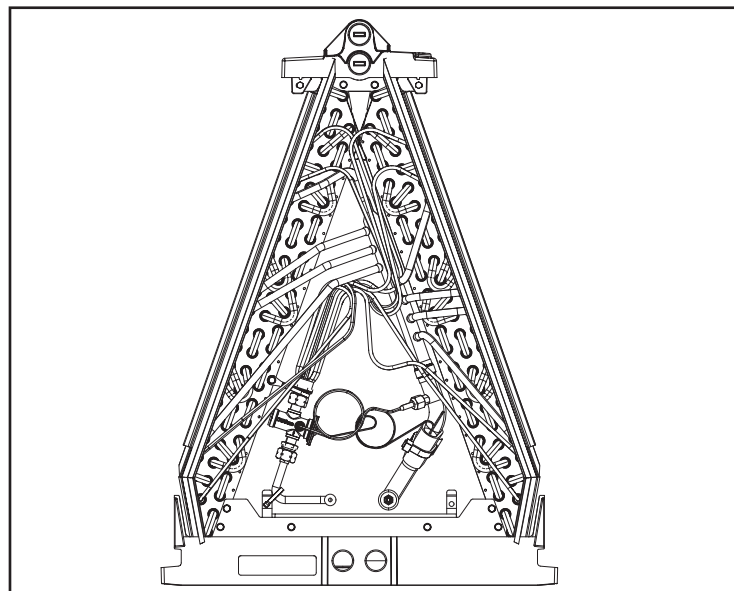

Figure 41 – Completed assembly
12. See Figure 41 for image of completed coil.